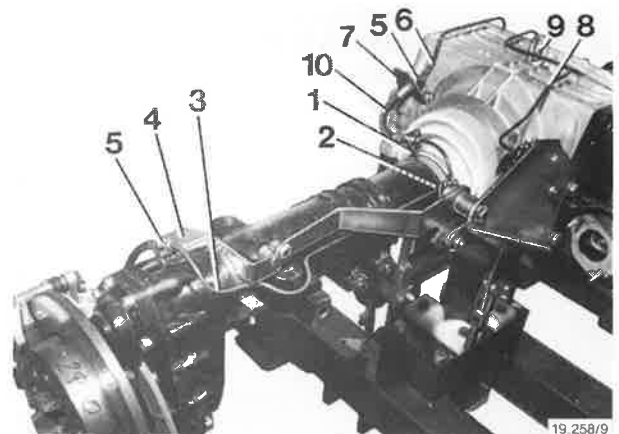

Fig. 31
- 37 Fit brake pipes acc. to fig. 31 and 3. Lead inner brake hose retainer (31/1 and 3/1) right to cylindrical neck of collar and to marking made during dismounting (with the aim that brake hose remains tension-free also in case of swinging out axle). Insert fastening screws from above. Tighten brake pipes with open-ring socket spanner size 11 special tool pos. no. 000 589 75 03 00 and torque spanner special tool pos. no. 001 589 75 21 00 to 15 Nm. Observe brake hoses not getting twisted.